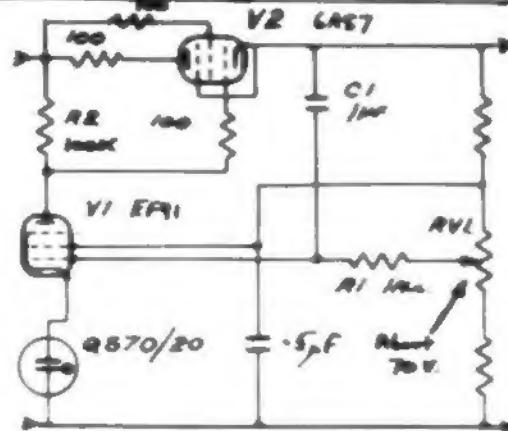

Figure 4: A typical general purpose stabiliser circuit.
Figure 4 shows a typical "all-round" stabiliser. Using an EF91 amplifier, and a 6AS7 control valve, Eqn (1) shows that the output impedance will be about 0.2 ohms, and the voltage stability will depend upon the stability of the neon. This in turn depends on the current flowing through it, which is limited by R_2 ; one cannot therefore make the gain of the amplifier very large by further increasing R_2 without sacrificing stability. R_1 is a high value (1M) so that C_1 can be reasonably small and yet still be satisfactory at low frequencies. (Compare the use of large grid leak with small condensers in video amplifiers). R_{V1} acts as a fine control on the output voltage. 100 ohm stopper resistors are included in the control valve circuit to prevent spurious oscillations.